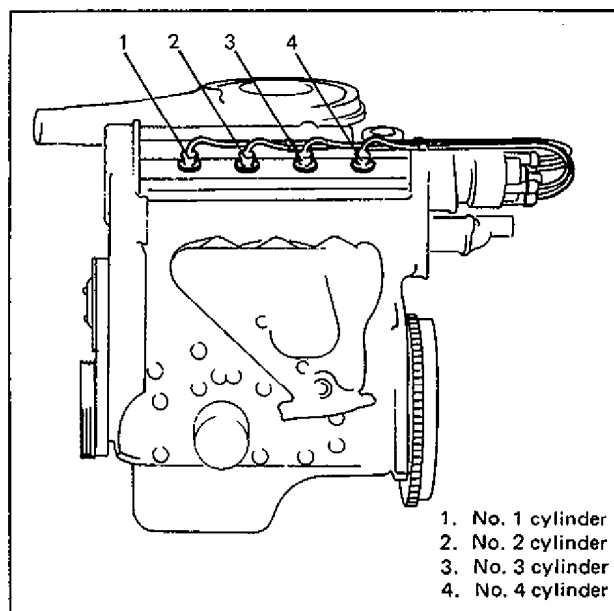

Fig. 6-1 Cylinder Numbers
- Throughout this manual, the four cylinders of the engine are identified by numbers; No. 1, No. 2, No. 3 and No. 4 counted from crankshaft pulley side to flywheel side as shown in Fig. 6-1.